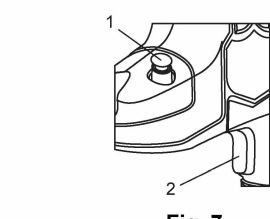

Fig. 7
2. Push down on the air bleeder valve (1) which is located on the top of the grease gun (Fig. 7).
3. Place the grease nozzle above scrap newspaper and squeeze the trigger (2) to start the grease gun motor.